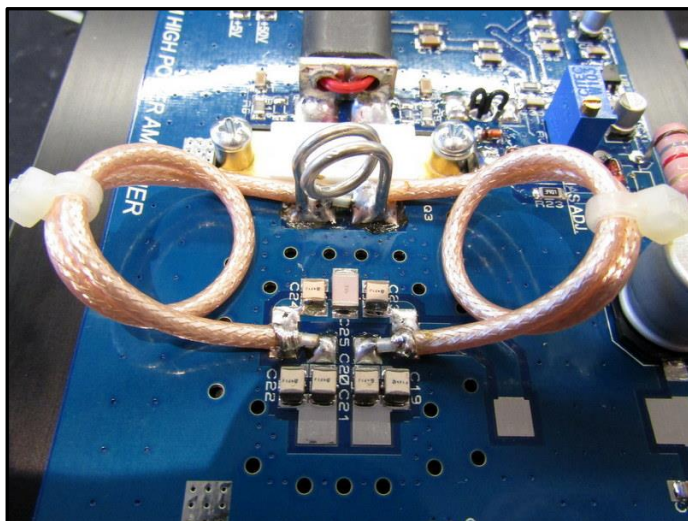

Figure 8: Transistor coax position.
12. Cut a 63mm length of the 16SWG tinned copper wire and wind around a 7.5mm drill bit to form a 1.5 turn coil with 5mm leads, as in figure 8. Solder this coil across the transistor output pads as in figure 9. Take care the windings of the coil don't touch the coax outer braids. This is L4, the drain coil of the amplifier.